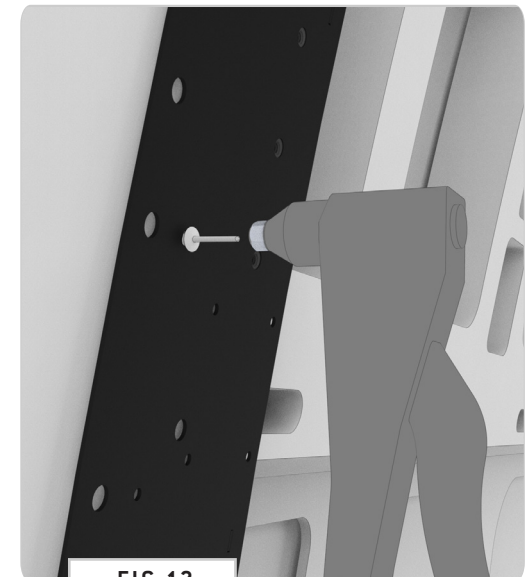

FIG 12
5.3 Install Rivets: After the paint has dried, install the **Rivets** (FIG 12).